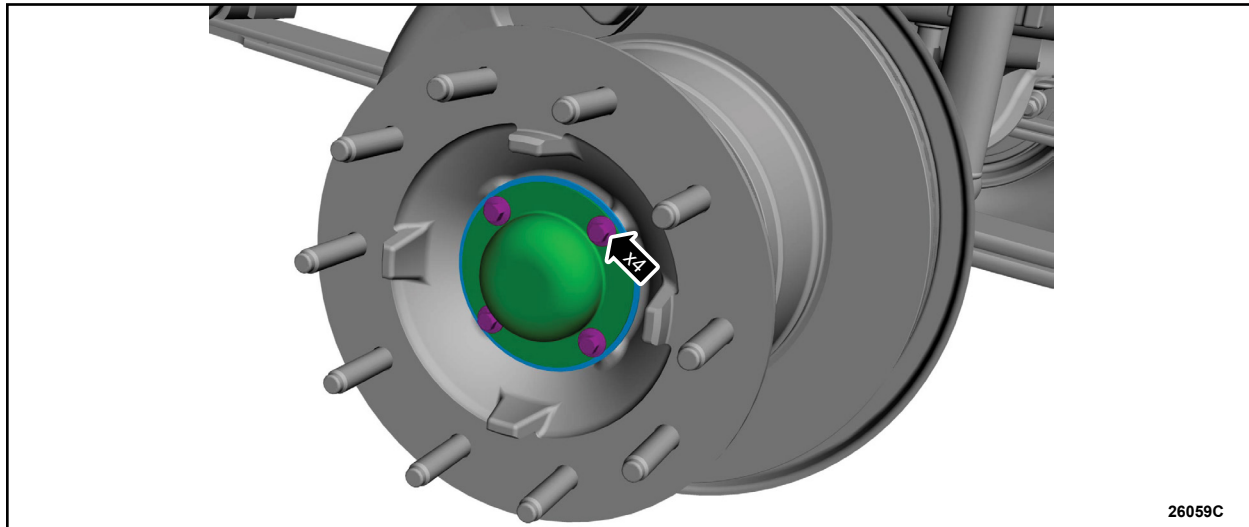
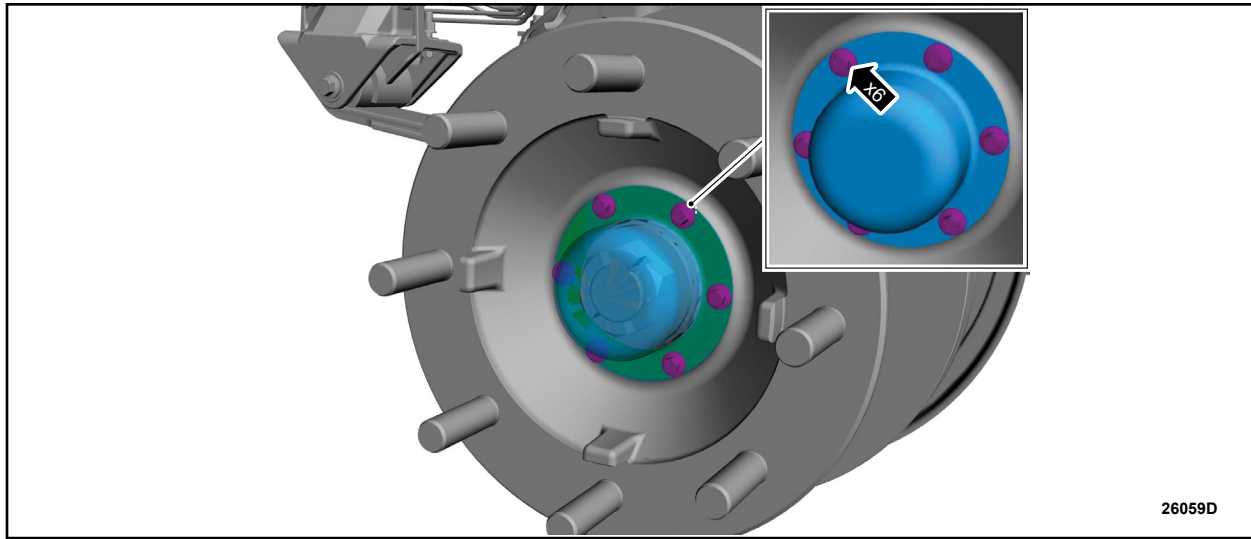

FIGURE 1
FIGURE 2
2. On both sides, remove the bolts, hub cap, and gasket. For vehicles with 16,000-22,000 lb gross vehicle weight rating (GVWR), see Figure 1. For vehicles with 24,000-26,000 lb GVWR, see Figure 2.